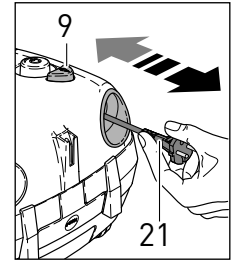
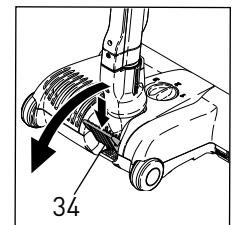
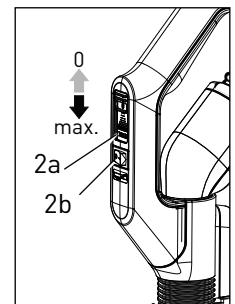

Figure 1
Figure 3 - E3
Figure 4 - E3
E3 Premium Users - Figures 1, 2, 3 & 4
1. With the canister main power knob (10) in the OFF position, and the suction-control slider on the handle (#2a, figure 4) in the OFF position, pull the power cord out from the base of the canister (figure 1). The power cord should be unwound from the cable reel at least two thirds of its length.
3. Press the main power knob (10) on the base of the canister gently with your foot or hand. A blue light will illuminate indicating that the power is on.
4. Slide the suction-control slider (#2a, figure 4) toward the MAX position. It will move freely between 0 suction and MAX suction. Set the slider to the suction desired.
5. When the power head is on with the handle in the upright locked position, the brush roller will not spin. To release the ET-1 power head from the upright locked position, press down on the foot pedal, (#34, figure 3), lower the handle into the normal operating position and push the brush roller switch on the handle (#2b, figure 4) to engage the brush roller. The green light on the power head will illuminate. The handle can be lowered to a horizontal position useful for vacuuming under beds.
E1 Kombi and E2 Turbo Users - Figures 1 & 2
1. With the canister main power knob (10) in the OFF position, pull the power cord out from the base of the canister (figure 1). The power cord should be unwound from the cable reel at least two-thirds of its length. **Note:** do not over-extend the cord.
3. Press the main power knob (10) on the base of the canister gently with your foot or hand.
E3 Premium Users - Figure 4